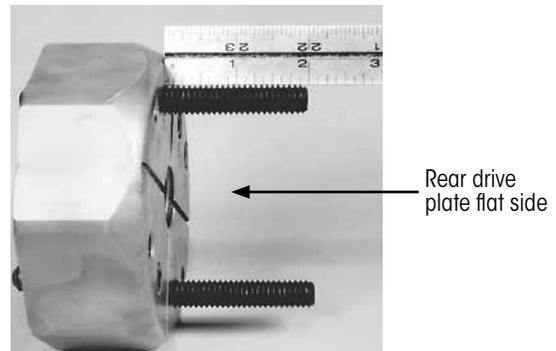

Figure 22: Checking set screw depth (wide bushing)
- B. **Thread** two 4-inch long set screws into opposite holes per Figure 20 in the rear of the drive plate (shown in Figure 22, "HVY" holes only).
- i. At least two inches of each set screw must be left exposed on the flat side of the rear drive plate as shown in Figure 22. If necessary, use 1/4-inch Allen wrench to turn screws.